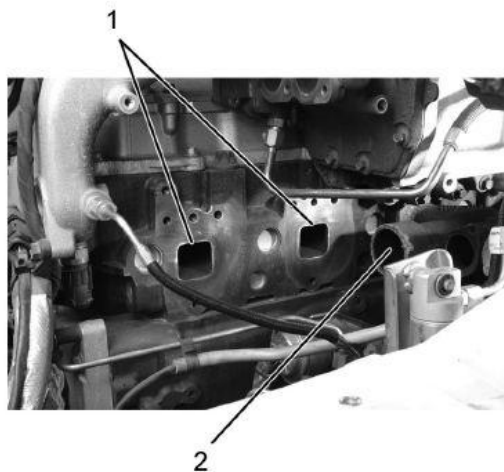

Figure 7: Cylinder Head
15. Clean #5 and #6 exhaust manifold gasket sealing surfaces (**Figure 7**, Item 1) on cylinder head.
16. Clean inside middle exhaust manifold bore (Figure 7, Item 2).